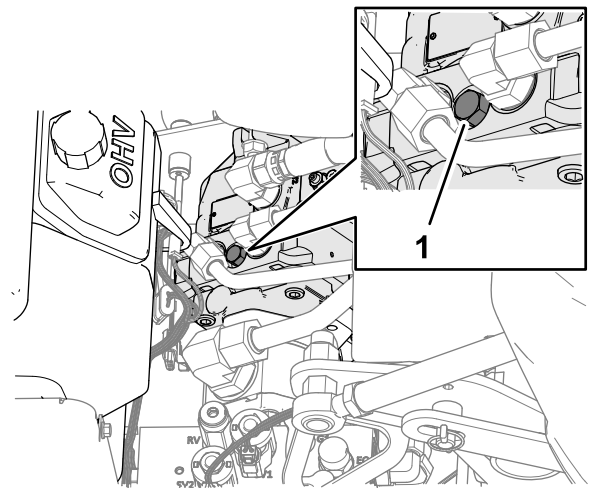

Figure 129
**Note:** The location of the cover for the bypass-valve screw is shown in Figure 129.